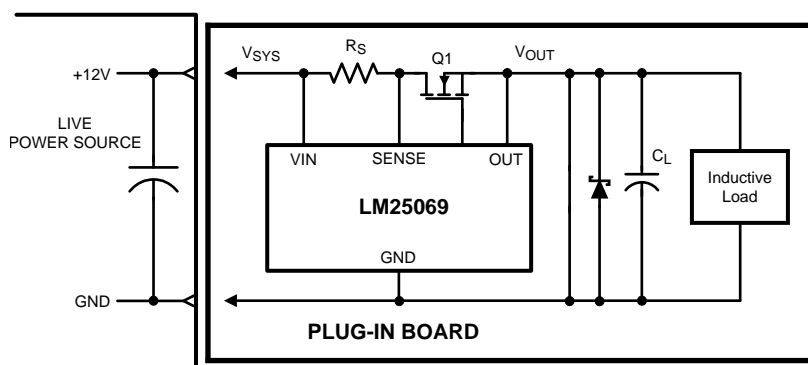

Figure 37. Output Diode Required for Inductive Loads
- b. If the load powered by the LM25069 hot swap circuit has inductive characteristics, a Schottky diode is required across the LM25069's output, along with some load capacitance. The capacitance and the diode are necessary to limit the negative excursion at the OUT pin when the load current is shut off. If the OUT pin transitions more than 0.3V negative the LM25069 will internally reset, interfering with the latch-off feature of the LM25069-1, or the restart cycle of the LM25069-2. See Figure 37.